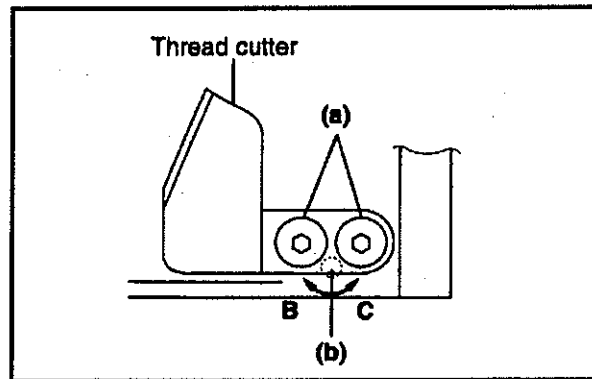

FIG.5
- (1) Remove the rotary hook cover.
- (2) Turn adjusting screw (b) in direction B and, while steadying the thread cutter by hand, turn adjusting screw (b) in direction C just so the screw tip barely touches the thread cutter (Fig.5).
- (3) While steadying the thread cutter by hand, tighten retaining screws (a) alternately and evenly until the cutter is fixed firmly (Fig.5).
- (1) Remove the rotary hook cover and slightly loosen two retaining screw (a) (Fig.5).
- (2) While steadying the thread cutter by hand, turn adjusting screw (b) in direction C just so the screw tip barely touches the thread cutter (Fig.5).
- (3) While steadying the thread cutter by hand, tighten retaining screws (a) alternately and evenly until the cutter is fixed firmly(Fig.5).
- (1) If the clearance is less than 2mm, slightly loosen the right-side retaining screw (a),tighten the left-side retaining screw (a), then tighten the thread cutter in position with the right-side retaining screw (a)(Fig.5 and 6).
- (2) If the clearance is larger than 3mm, slightly loosen the left-side retaining screw (a), tighten the right-side retaining screw (a), then tighten the thread cutter in position with the left-side retaining screw (a)(Fig.5 and 6).